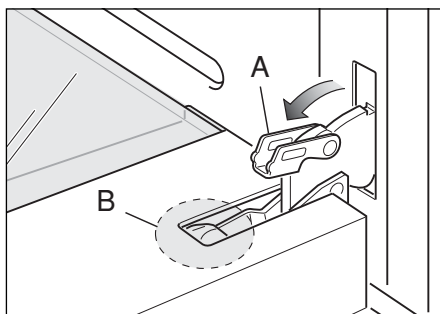
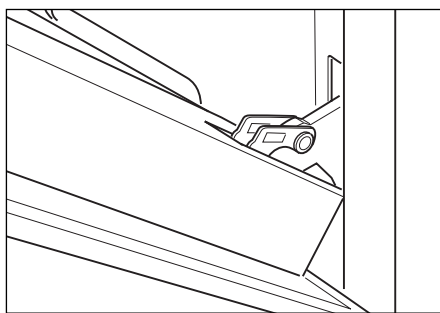

Fig. 44b
Fig. 44c
- Fully open the lever "A" on the left and right hinges (Fig 44b).
- Gently close the door (Fig. 44c) until the left and right hinges are hooked to part "B" of the door (Fig. 44b).